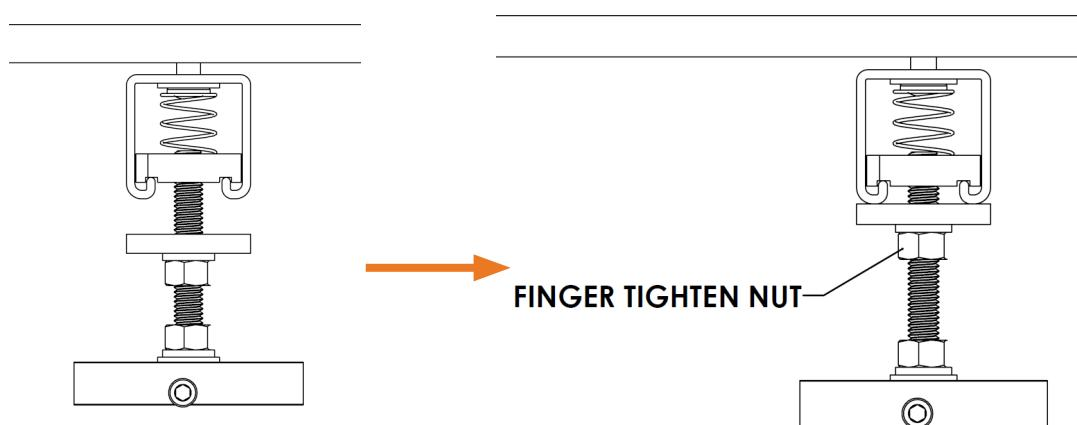

Figure 156: **Hex Nut in Place**
c. Finger tighten the hex nut below the square channel washer to press the square channel washer against the strut (Figure 156).